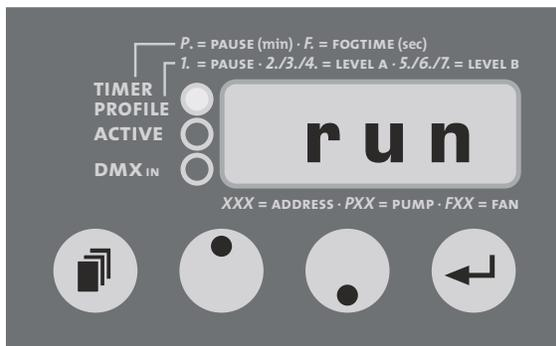

Fig. 8: Start the profile
- d) To start the Profile with the adjusted values, press the Mode button [14], until „run“ appears on the display (Fig. 8), then press the Enter button [16]. The Timer/Profile-LED [20] flashes, indicating that the Profile is running. The green Active-LED [18] lights as soon as the adjusted Pause (Pre-Runtime) has passed and level A has started. The Profile can also be started via an optional radio remote.